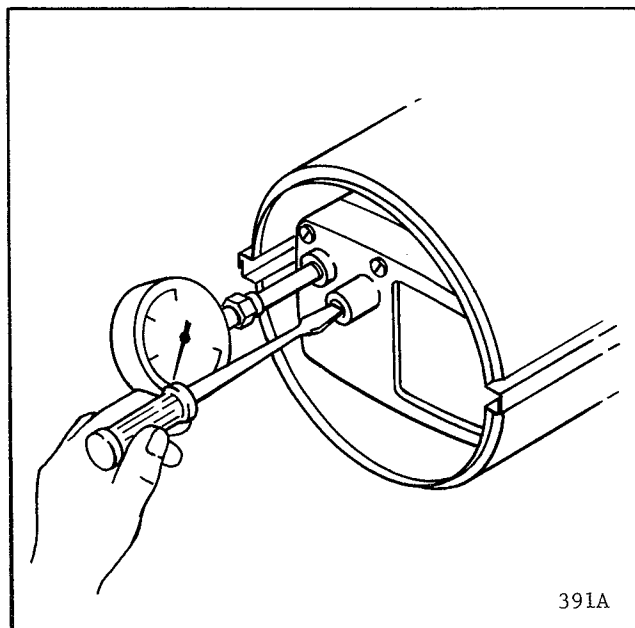

Figure 14. Checking and Adjustment of Air Pump Pressure
1. Remove the plug from the air filter housing, and install the pressure gage (listed in paragraph B of this Section) into the hole. See figure 14.